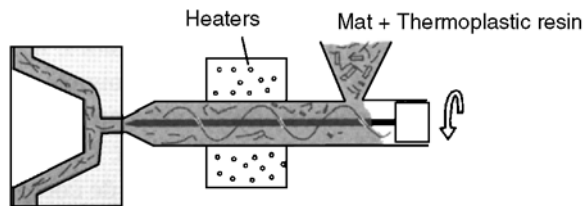

Figure 2.8 Injection of Thermoplastic Premixed
- **Thermoplastic resins:** Can be used to make mechanical components with high temperature resistance, as shown in Figure 2.8.